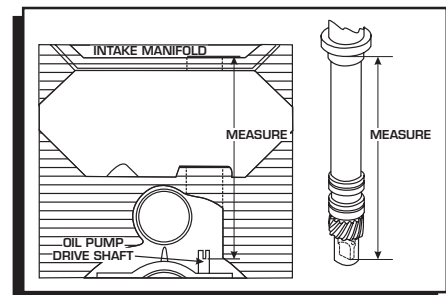

Figure 2 Measuring Oil Pump Overlap.
1. Measure the distance between the base of the slip collar to the tip of the distributor shaft (Figure 2).
2. Using a straight edge, measure the distance from the intake manifold distributor flange to the bottom groove on the oil pump shaft (Figure 2).